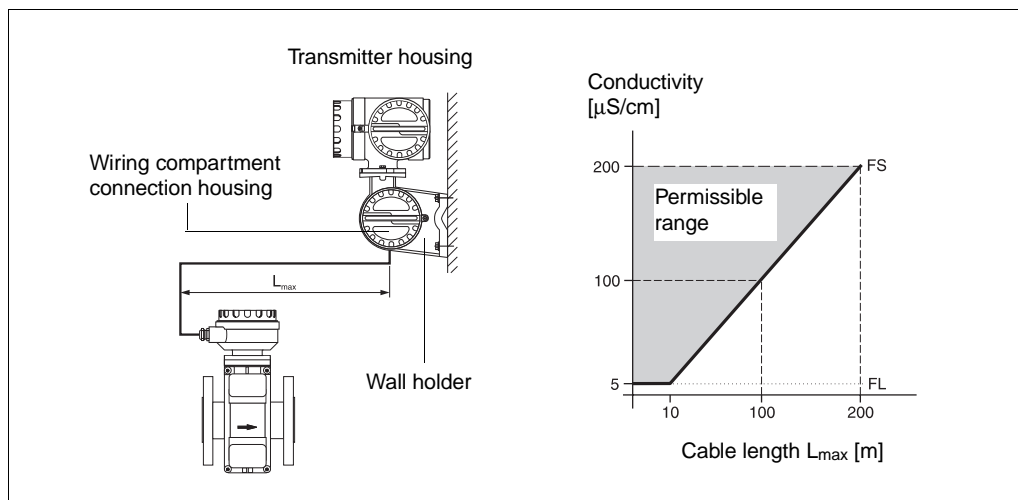

Fig. 26
- The permissible length of cable between the sensor and the transmitter at a distance of >10 m is governed by the conductivity of the medium (Fig. 26).